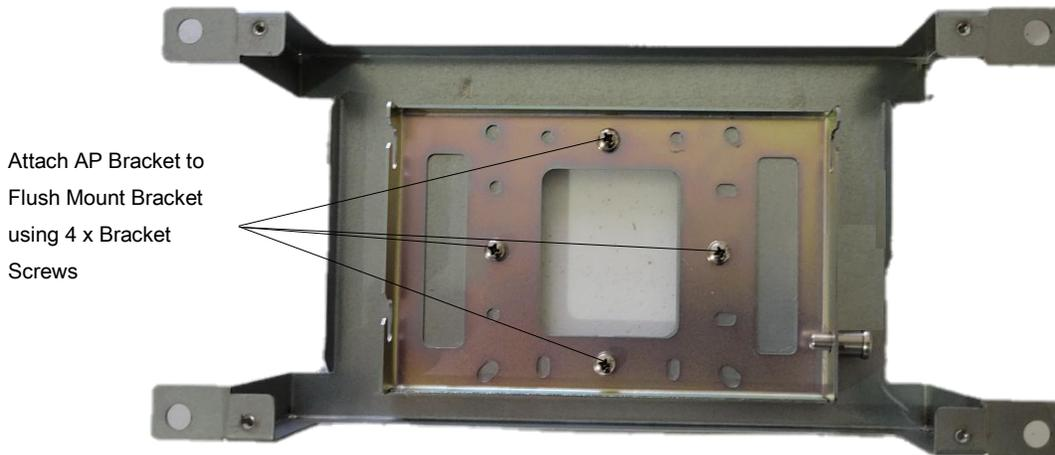

Figure 34: APV3-DAS - Mounting Standard Mounting Bracket to Flush Mount Bracket
- Install the APV3-DAS standard mounting bracket into the flush mount bracket using the (4) screws removed in the previous step. Ensure the standard mounting bracket is installed with the Spring-loaded Pin Lock on the right side. See Figure 34 below.